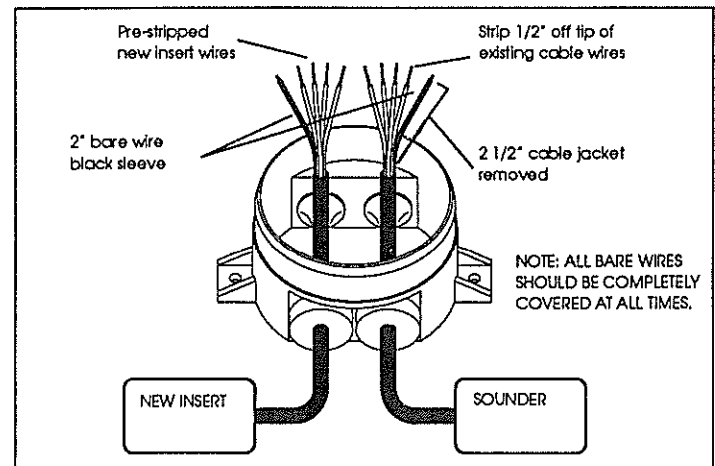

FIGURE 7. LOCATING WIRES IN TWO CABLE SYSTEM
2. Strip 1/2" (13 mm) of insulation from the tip of the green, red, brown, white, and bare wires on the cable running to your sounder. Twist exposed strands tightly together to eliminate loose or frayed ends. See Figure 7.
3. Put a 2" (50 mm) black sleeve over the bare wire on both the new cable and the existing cable. Slide the sleeve back to the cable jacket so that only the tips of the bares are exposed. See Figure 7.